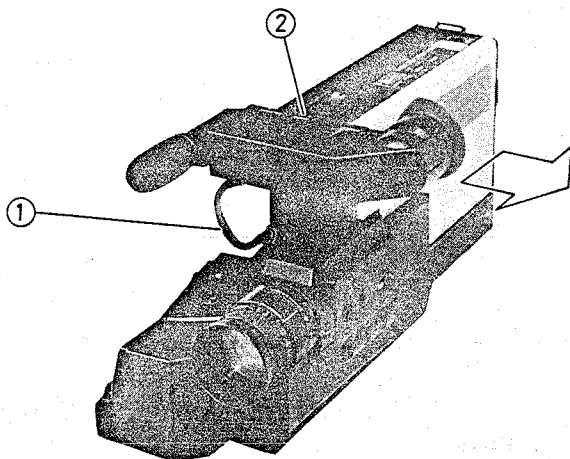

Fig. 2-1 Electronic Viewfinder (EVF) Removal
Electronic Viewfinder (EVF) Removal (Fig. 2-1)
1. Remove the EVF. (See Fig. 2-1)
2. Remove one (1) screw holding the EVF shoe.